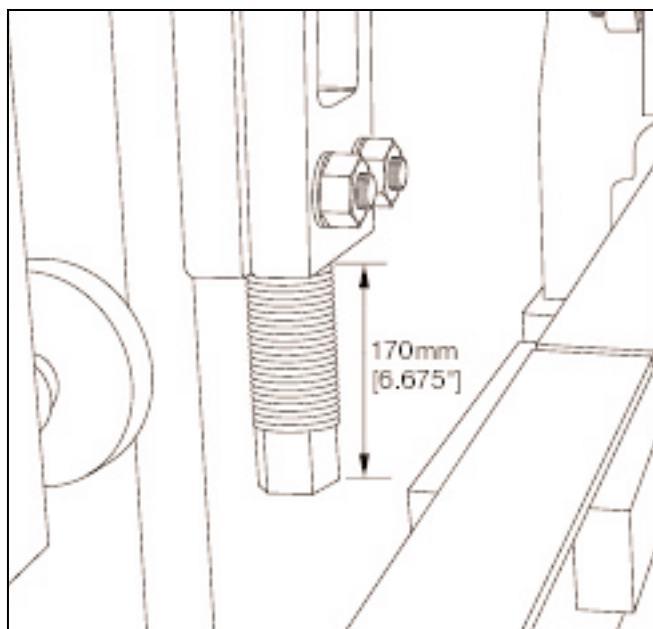

Figure 4.44 UPPER HEIGHT STOPS.
4.3.6 Adjust the upper height stops (**part #047356**) so that **170mm [6.675"]** extend past the bottom of the castings (figure 4.44).